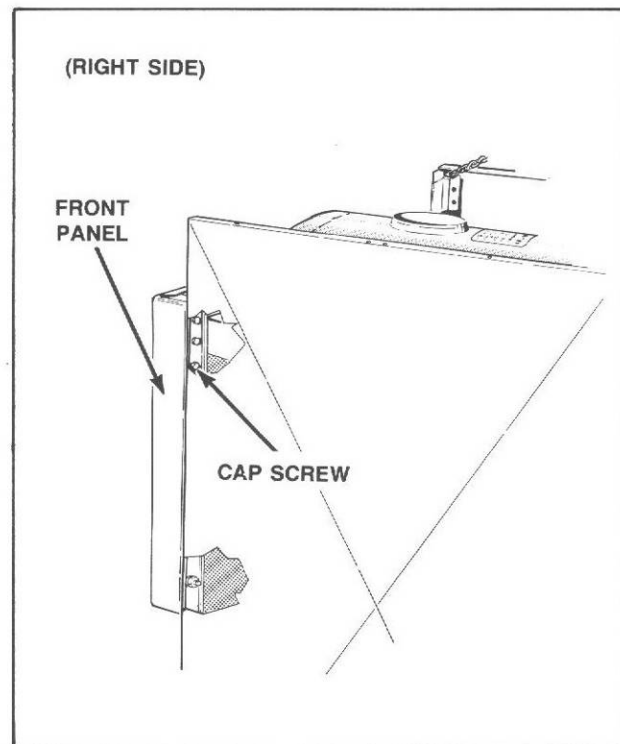

Figure 13
- Remove nut and lockwasher (bottom), and cap screw (top), *Figure 13*, holding front panel assembly to right leg.